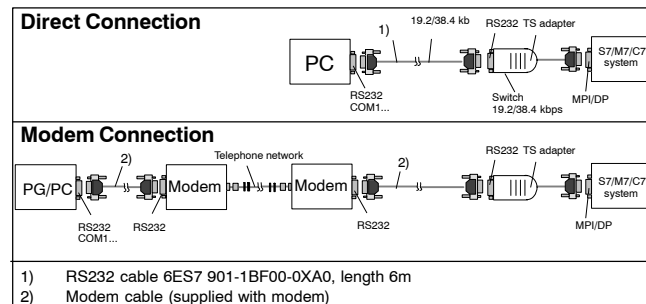
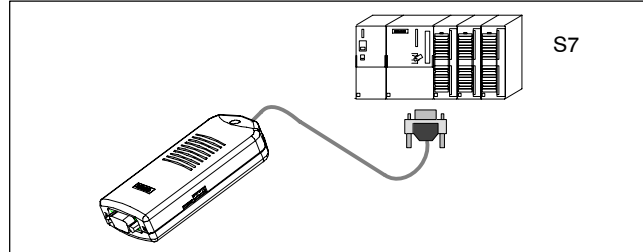

Figure 1-2 TS Adapter in the System
Figure 1-5 Connecting to an S7 System
- See Figure 1-2 “TS Adapter in the System” for details of modem connection. A modem is connected to the RS232 interface of the TS adapter using the enclosed RS232 cable. In the modem description, this cable is used for connecting the modem to a PC. If this modem cable does not have a 9-pin SUB-D socket connector on the TS adapter side, the relevant adapter must be used (Figure 1-5).